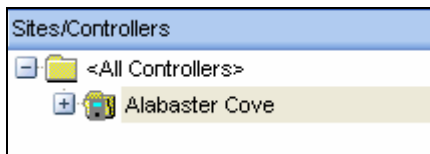

Figure 4.3.1
1. From the "Sites/Controller" list select the Site you want to edit (Figure 4.3.1)